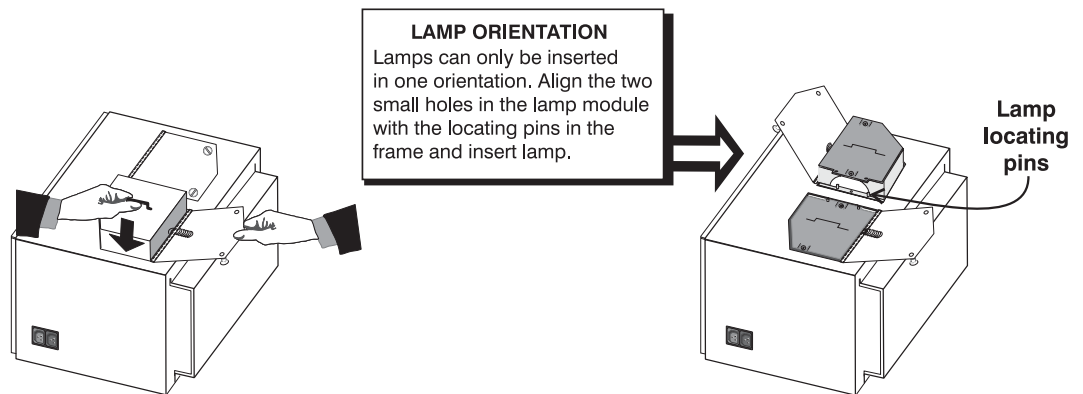

Figure 4.5
- a) Hold the new replacement lamp above the lamp compartment. Align the two holes on the lamp module with the locating pins located on the edge of the lamp compartment. See Figure 4.5.